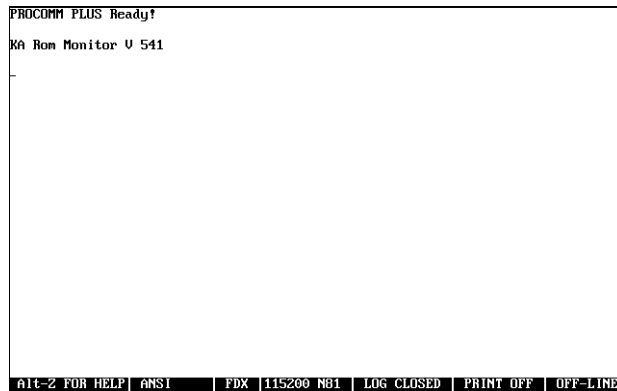

Figure 4-4. Monitor login screen
6. Press the <cr> key several times until the Monitor login appears (Figure 4-4).